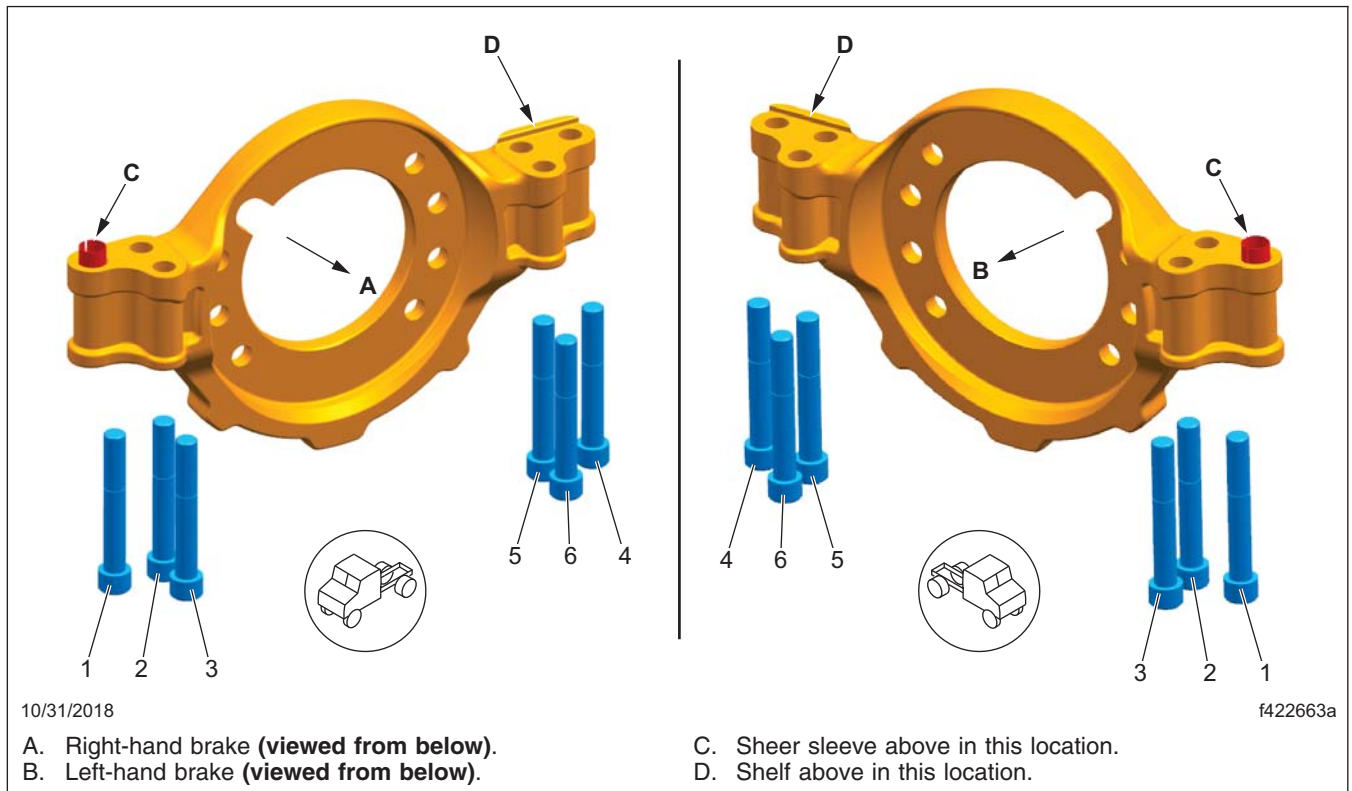

Fig. 12, Bendix Radial Mounted Caliper Tightening Pattern (viewed from below)
4. Set a torque wrench to 200 lbf-ft (271 N·m) and tighten the caliper mounting bolts following the tightening pattern shown in **Fig. 12**. If they do not turn, no further work is needed. If they turn, take the vehicle to an authorized Freightliner dealer to have all of the caliper bolts on that wheel end replaced.